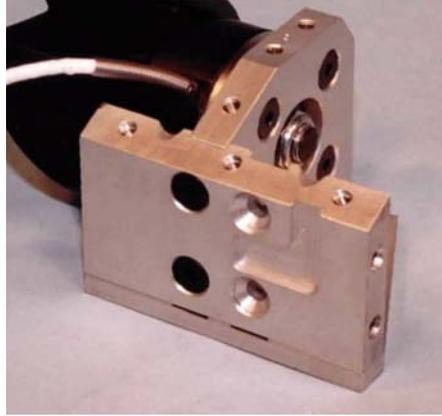

Figure 11.6- Left Socket assembly attached to Rear Plate
4. Secure the left socket / load cell assembly, prepared in Step 2, into the left groove of the bottom plate, aligning the threaded holes with the thru holes of the base. Bolt the left socket / load cell assembly to the rear plate using two 1/4"-28 x 3/4" FHSCS {5/32}, as shown in **Figure 11.6**.